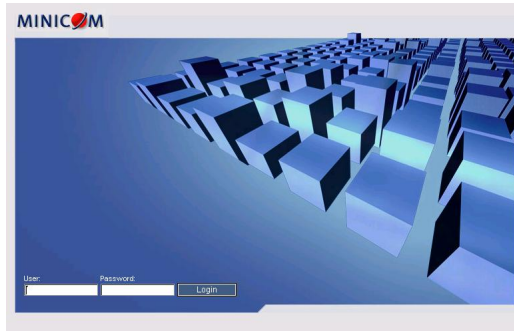

Figure 5 Login page
2. Type the PX system IP address - `https://IP address/config` - and press **Enter**. The login page appears, see Figure 5.